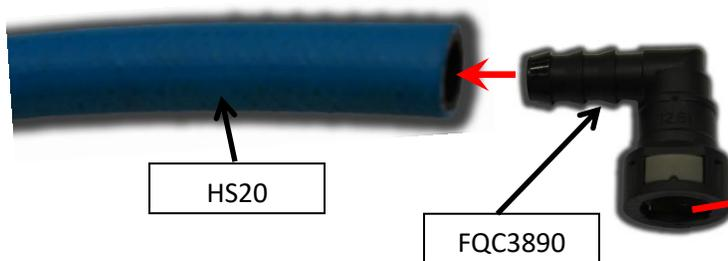

FIGURE 21
- 6B-4. Assemble one end of the return line (Reference section 5) using Fuel line end FQC3890 and plug it into the “Return” J2044 fitting installed in the AirDog® (Figure 21). A “click” will be heard once the fitting is properly connected.